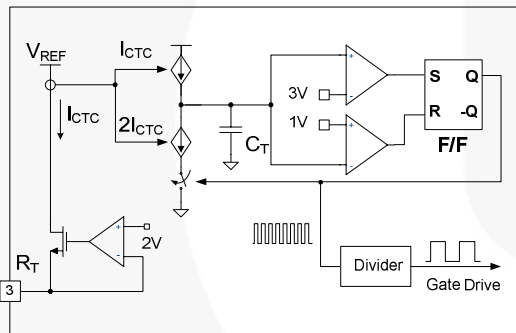

Figure 16. Current-Controlled Oscillator
2. Internal Oscillator: FSFR-XS series employs a current-controlled oscillator, as shown in Figure 16. Internally, the voltage of R_T pin is regulated at 2V and the charging / discharging current for the oscillator capacitor, C_T , is obtained by copying the current flowing out of the R_T pin (I_{CTC}) using a current mirror. Therefore, the switching frequency increases as I_{CTC} increases.